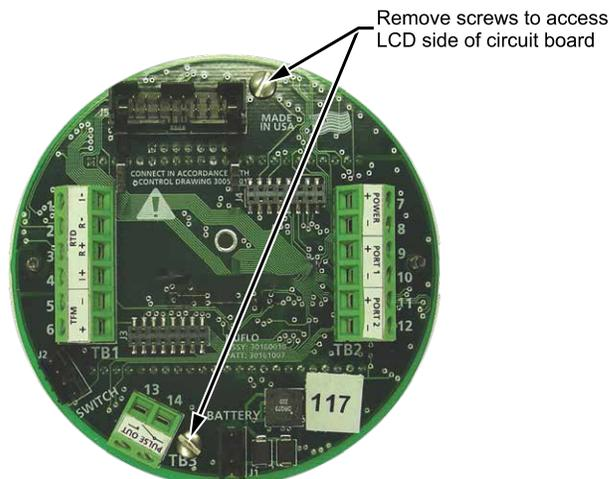

Figure C.13 - Disassembly of main board/keypad assembly
12. Remove the two #4-40 × 5/16-in. screws fastening the main board to the keypad (Figure C.13).